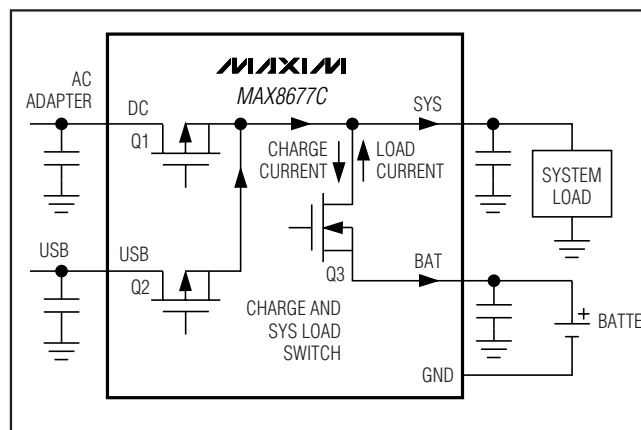

Figure 4. Smart Power Selector Block Diagram
The MAX8677C Smart Power Selector seamlessly distributes power between the external inputs, the battery, and the system load (Figure 4). The basic functions performed are:
An internal 40mΩ MOSFET connects SYS to BAT (Q3, Figure 4) when no voltage source is available at DC or USB. When an external source is detected at DC or USB, this switch is opened and SYS is powered from the valid input source through the input limiter.
The input voltage limiter is essentially an LDO regulator. While in dropout, the regulator dissipates a small I^2R loss through the 0.2Ω MOSFET (Q1, Figure 4) between DC and SYS. With an AC adapter or USB source connected, the input limiter distributes power from the external power source to the system load and battery charger. In addition to the input limiter's primary function of passing power to the system and charger loads at SYS, it performs several additional functions to optimize use of available power:
- **Input Voltage Limiting.** If an input voltage is above the overvoltage threshold (6.9V typ), the MAX8677C enters overvoltage lockout (OVLO). OVLO protects the MAX8677C and downstream circuitry from high-voltage stress up to 14V at DC and 8V at USB. In OVLO, VL remains on, the input switch that sees overvoltage (Q1, Q3, Figure 4) opens, and the appropriate power-monitor output ($\overline{DOK}$, $\overline{UOK}$) is high impedance, and $\overline{CHG}$ is high impedance.
If both DC and USB see overvoltage, both input switches (Q1 and Q2, Figure 4) open and the charger turns off. The BAT-SYS switch (Q3, Figure 4) closes, allowing the battery to power SYS.
An input is also invalid if it is less than BAT, or less than the DC undervoltage threshold of 3.5V (falling). With an invalid input voltage, SYS connects to BAT through a $40m\Omega$ switch (Q3, Figure 4).
The total current through the switch (Q1 or Q2 in Figure 4) is the sum of the load current at SYS and the battery charging current. The limiter clamps at 4.35V, so input voltages greater than 4.35V can increase power dissipation in the limiter. The limiter power loss is $(V_{\text{DC}} - 4.35) \times I$, but not less than $I^2 \times 0.2\Omega$. Also note that the MAX8677C turns off any input that exceeds 6.9V (nominal).